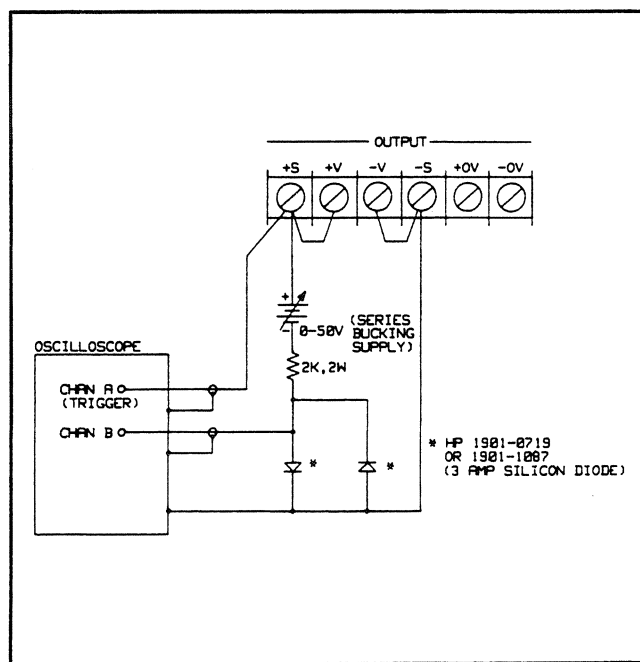

Figure 3-6. CV Up Programming Speed Test Setup
- Turn off the supply and connect the output to be tested as shown in Figure 3-6.
- j. Now observe Channel B on the oscilloscope while maintaining the trigger on Channel A as in step h. Note the series supply bucks out the Full Scale Output Voltage and that the waveform is clamped at approximately -0.6 V and rises to the top horizontal line when the output voltage is at full scale. The diodes (see Figure 3-6) prevent gross overload of Channel B (which is set at 50 mV division) allowing examination of the "tail" of the exponential waveform. The output voltage should be within 20 mV of its final settling value on the top horizontal line in less than 2 msec. for 40WLV/80WLV outputs and within 50 mV in less than 6 msec. for 40WHV/80WHV outputs.